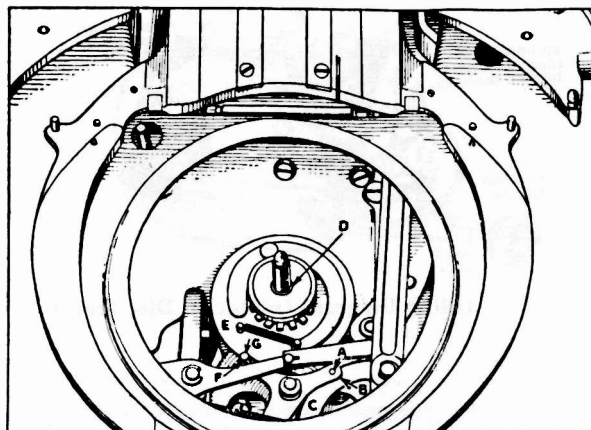

Fig. 18—Method of Timing Gears
- Turn the mechanism by hand until the roller A, Fig. 18, is engaged in the slot B of the cam gear C.